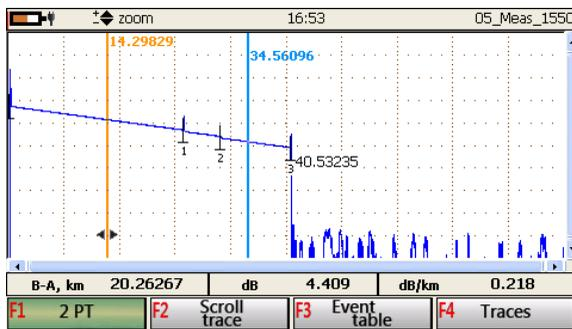
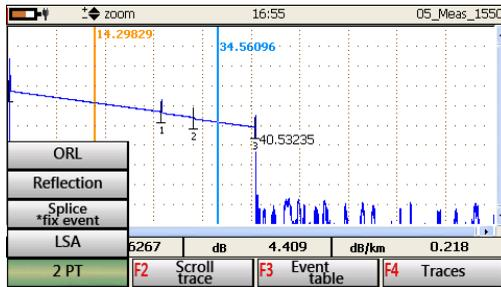

Figure 7.19
Figure 7.21
Figure 7.19 shows the main program window. It contains the working field and data line.
The mode of attenuation measurement with approximation is set by selecting LSA in the 2 PT menu (see Figure 7.19). In this case the approximation straight line is shown in the screen (see Figure 7.21) and the results of attenuation measurement in the data line are shown with approximation.
This mode is set by selecting [F1 Splice *fix event] in the 2 PT menu (see Figure 7.21).
The mode of reflectance measurement is set by selecting Reflection in the 2 PT menu (see Figure 7.21).
ORL measurement mode is set by selecting ORL in the 2 PT menu (see Figure 7.21).
7.6.9.2 To scroll the trace, press [F2 Scroll trace] as shown, for example, in Figure 7.19. Use the \uparrow , \downarrow , \leftarrow , \rightarrow buttons for scrolling.